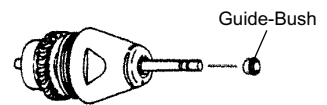

Fig. 9
- Mount the guide-bush on dummy bur. The longer part of the guide-bush should face the rotor side when it is fixed on the top of the rotor shaft. (Fig.9)